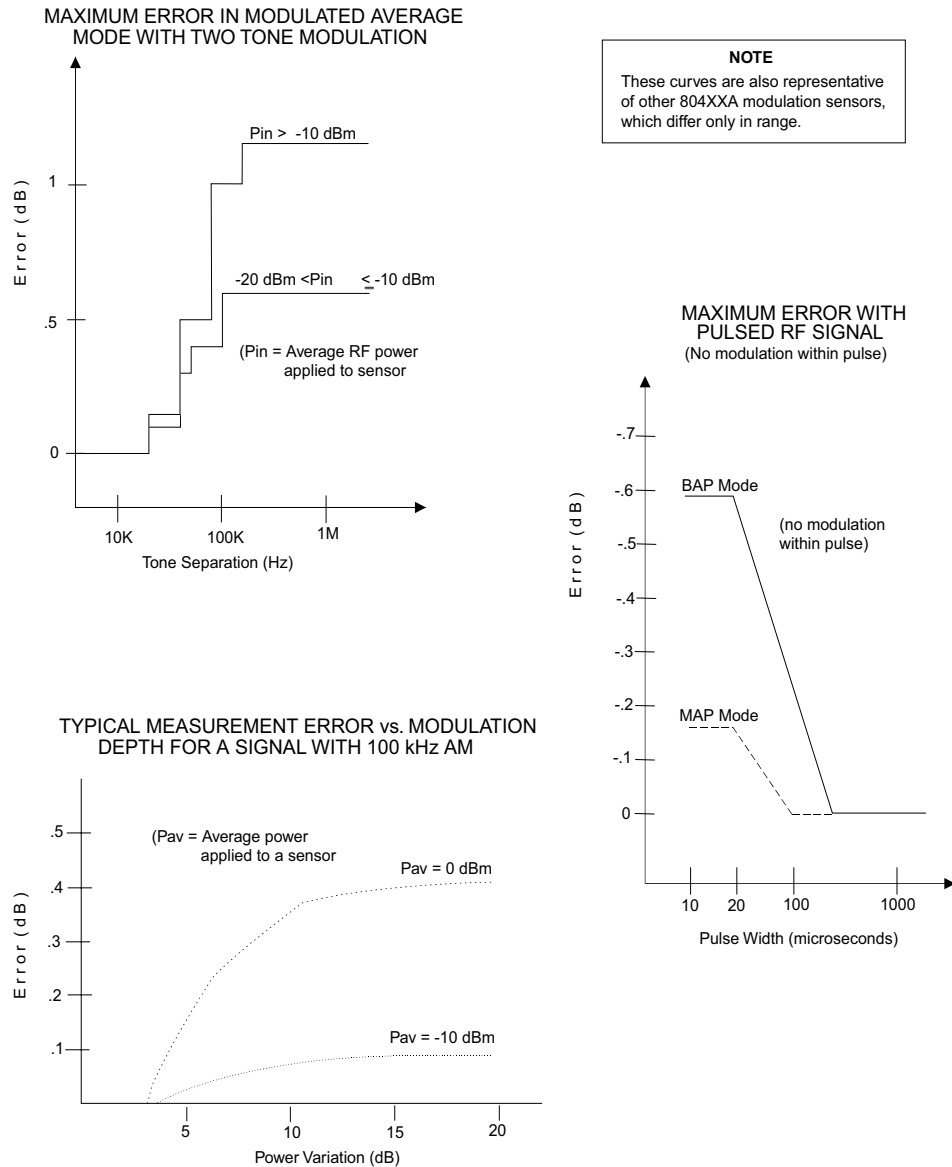

Figure B-1: 80401A Modulation-Related Uncertainty
2. See Figure B-1 for modulation-related uncertainty.